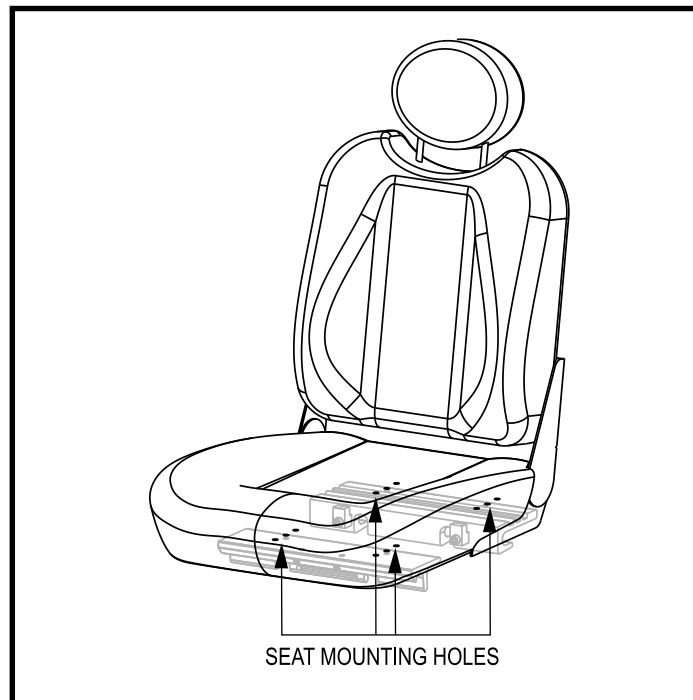

Figure 15. Seat Position Adjustment
7. Reposition the extrusions on a different set of mounting holes. You must move both extrusions the same number of holes either forward or backwards. See figure 15.